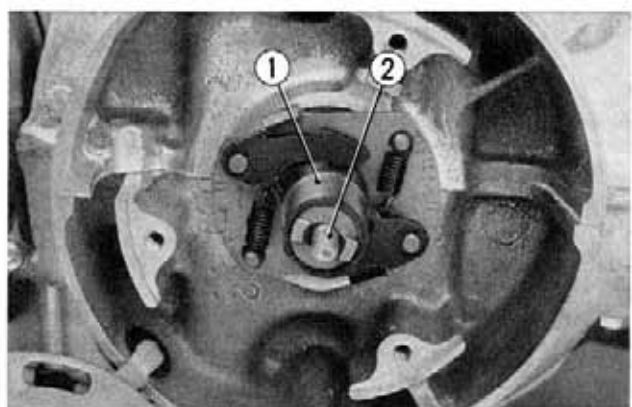

Fig. 7-22 ① Spark advancer
2. Remove the spark advancer from the spark advancer shaft. (Fig. 7-22)